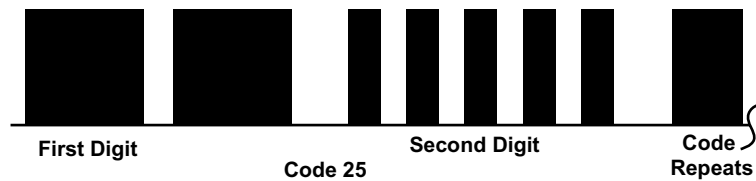

Figure 4-20 Acura engine Code Type 02
- Type 02, see Figure 4-20 and Table 4-3